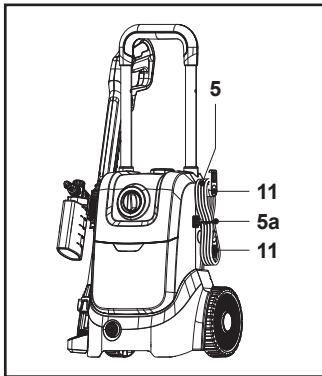

Fig. 21
2. Wrap the power cord (5) around the two cord anchors (11) and secure it in place with a supplied cord clip (5a) (Fig. 21).